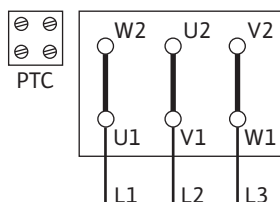
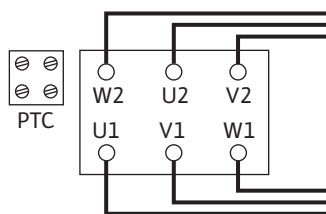

Fig. 5: Y-Δ start
Fig. 6: Δ connection
- The mains connection is dependent on the motor power P_2 , mains voltage and activation type. Refer to the following table and Fig. 5 and Fig. 6 for the required connection of the connecting bridges in the terminal box.
Y-Δ-start (standard)	Remove connecting bridges (Fig. 5).
Start via soft starter	Δ-connection (Fig. 6)